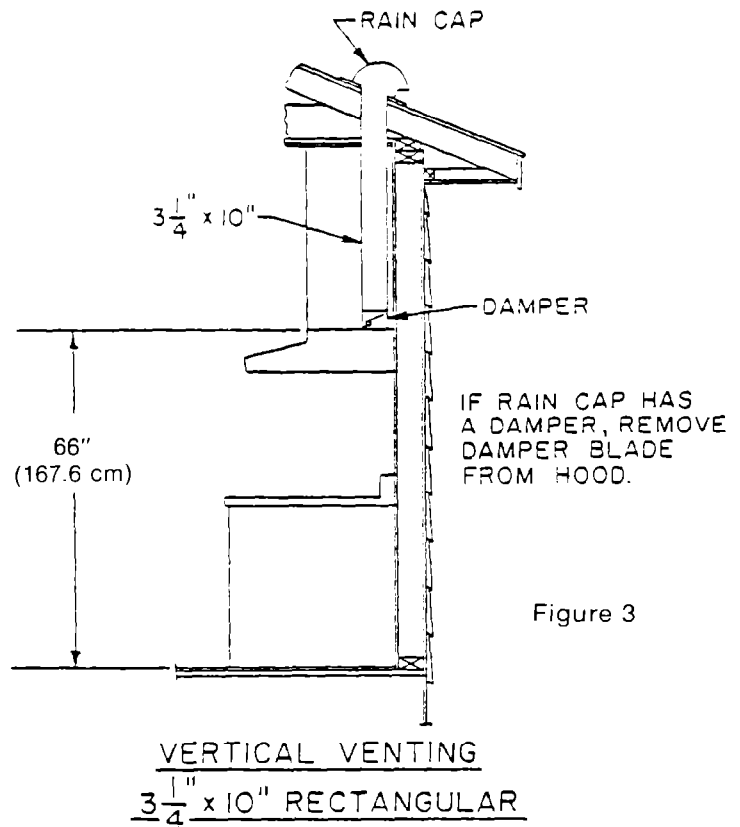
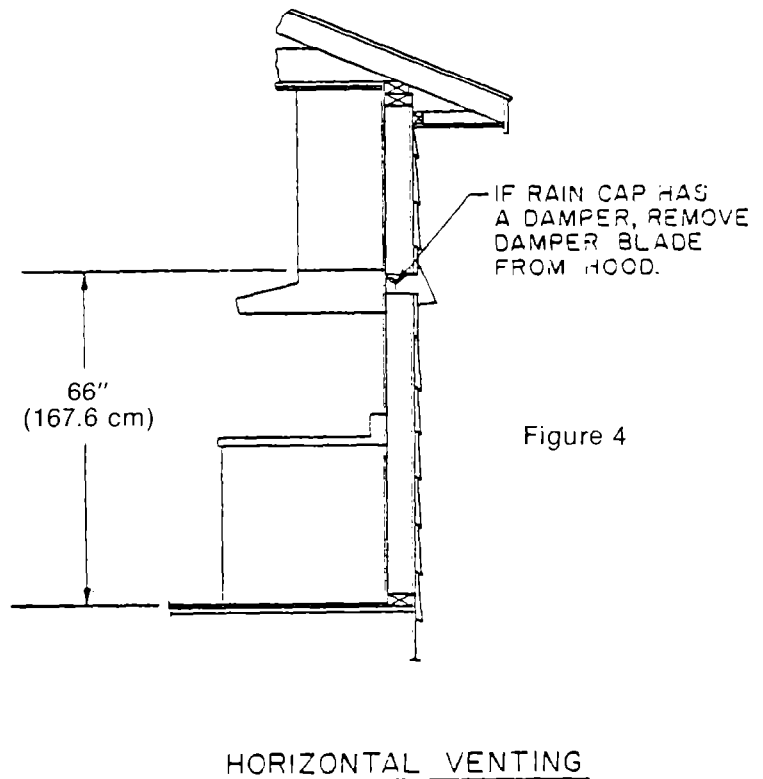

Figure 3
Figure 4
This unit can be vented vertically through upper cabinets or horizontally through an outside wall. A typical vertical installation is shown in Figure 3. A typical horizontal installation is shown in Figure 4.
19. Be sure that damper which is supplied with this model is properly installed. (See Figures 3 & 4).